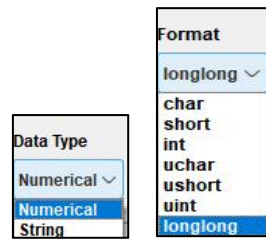
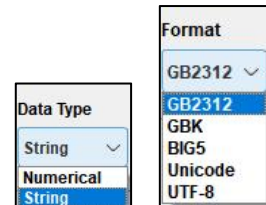

Figure 9-8: Numerical Data Type
Figure 9-9: String Data Type and Format
- ① **Var Addr:** Input a variable address
- ② **Data:** Data entry box. Input the data to be sent here. For read operation, the read data will be shown here too. Both decimal and hexadecimal numbers are acceptable. When inputting hexadecimal numbers, 0x must be added in front of the numbers.
- ③ **Read/Write:** To trigger a read or write operation. Only allowed to read from / write to one address at a time.
- ④ **Data Type & Format:** There are two data types available, **Numerical** and **String**. For **Numerical** type, there are 7 data formats available, as shown in Figure 9-8. For **String** type, there are 5 encoding formats available, as shown in Figure 9-9. Refer to Sending Data by UI Emulator-II for more details.